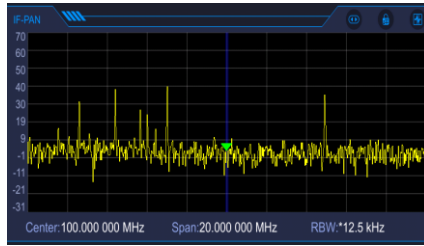

Fig. 4.5 Intermediate Frequency Spectrum
- Intermediate frequency panorama: displays the frequency spectrum within the bandwidth, and can set the center frequency, frequency bandwidth and resolution bandwidth. As shown in Figure 4.5.